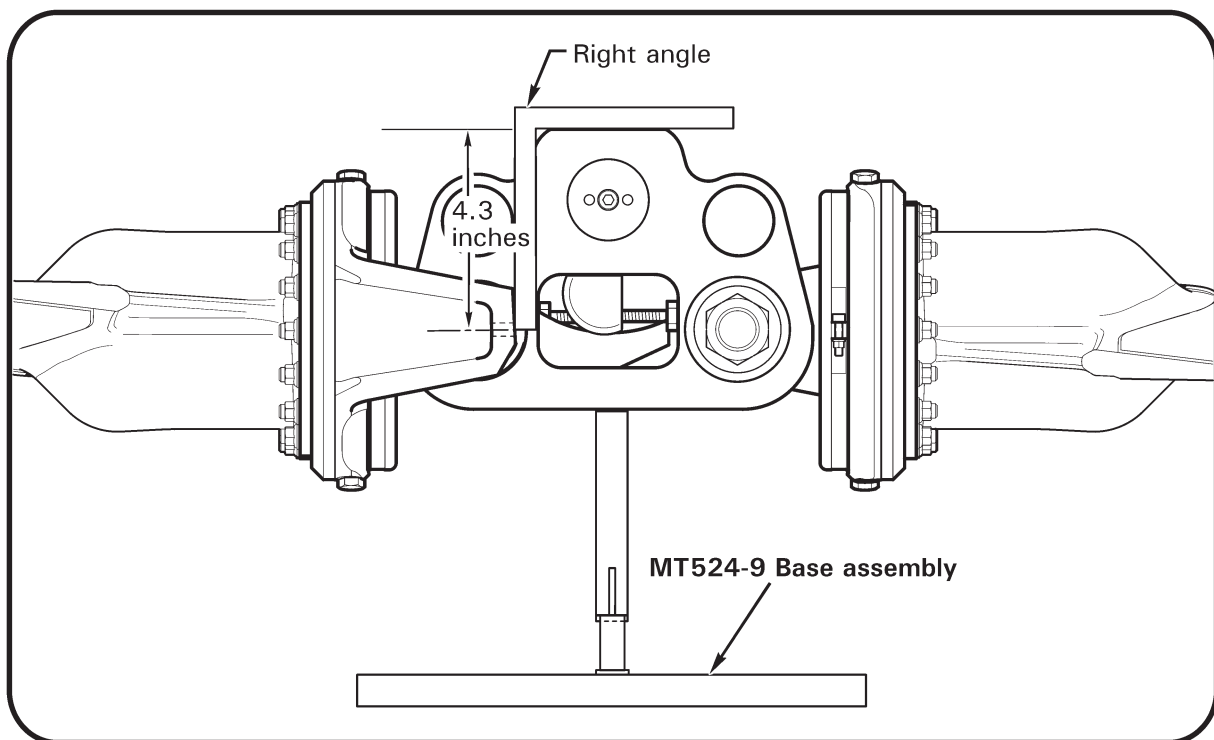

FIGURE 62-8B EQUALIZING BLADE PITCH
4. Refer to Figure 62-8B. Verify blade pitch angles are approximately equal with pitch horns adjusted as shown. If blade pitch angles are not equal, then pitch horn(s) are not correctly installed.